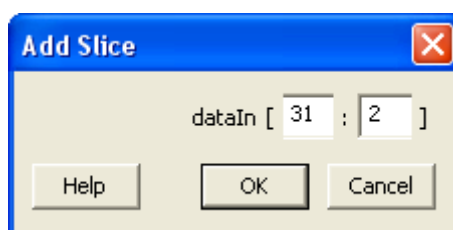

Figure 3-20 • Add Slice
10. Type 31 and 2 (for [31:2]), as shown in Figure 3-20.